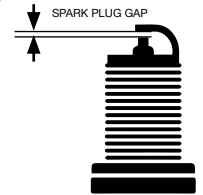

Figure 24
- Spark plug gap (the acceptable limit of 0.027–0.032 in. [0.70 – 0.80 mm]) (see Figure 24).